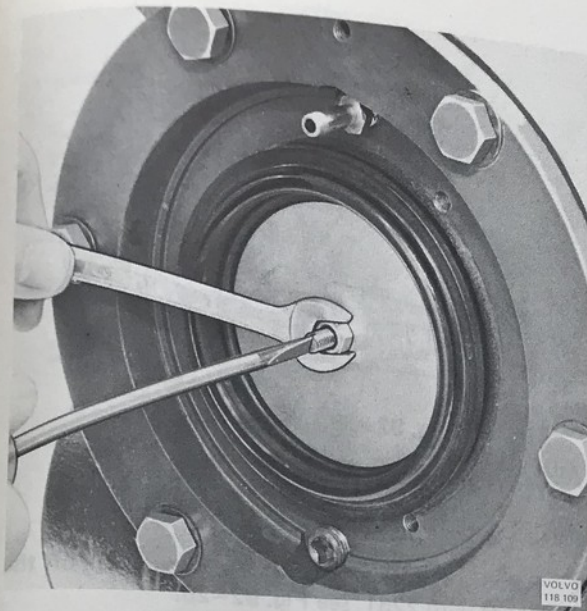

Fig. 92-21. Removing the nut
2. Remove the nut on the thrust rod see Fig. 92-21.